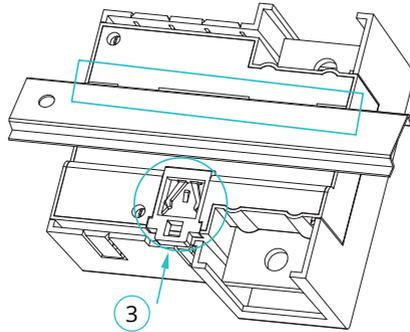

Figure 2-4 Insert Clip Lock to Secure the AcuDC 300
3. Release the clip lock back up ③ to secure the AcuDC 300 onto the DIN rail, as illustrated in Figure 2-4.